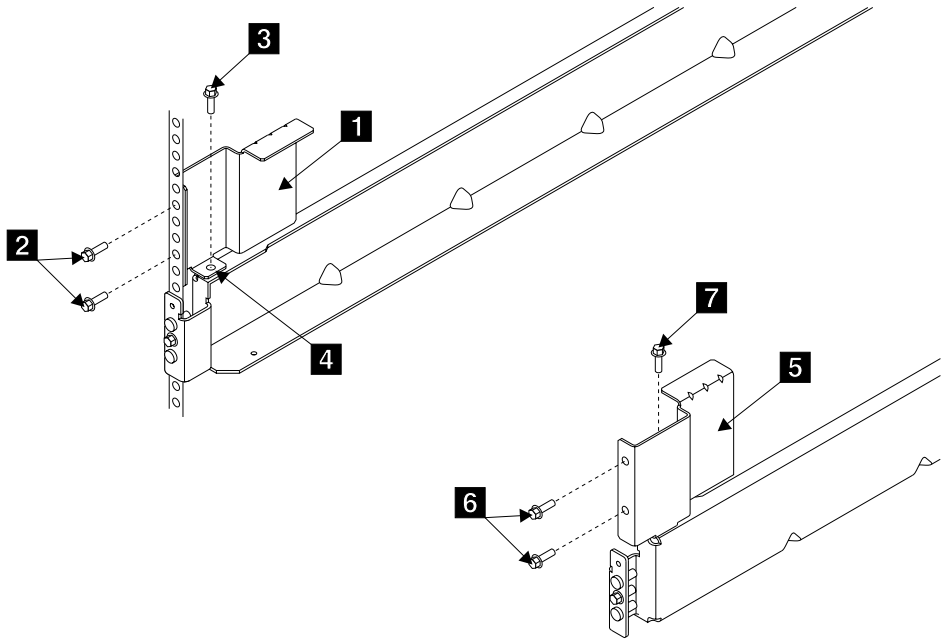

Figure 137. Installing the Back Brackets onto an RS/6000 Rack
Step 13. Refer to Figure 137.
- Step 18. Place the other back bracket **5** into position, as shown in Figure 137.